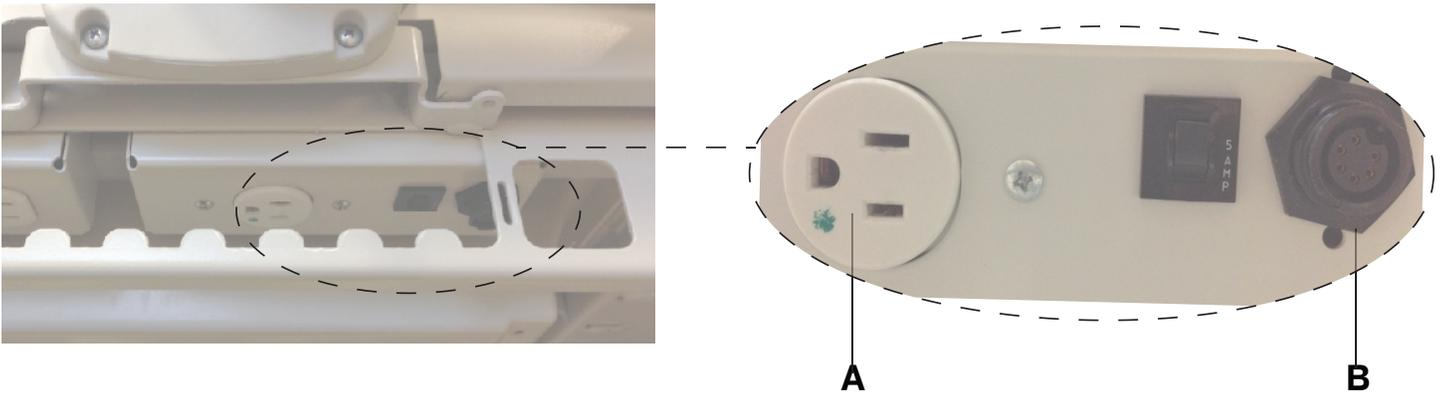

Figure 2 – InTouch foot end auxiliary power outlet and mattress connector
6. Put the retainer strap through both D-Rings (C), both sides.
12. Connect the integration cable from the support surface foot end to the **InTouch** cable adapter (B) (Figure 2).
15. Plug the power cord for the support surface into the **InTouch** foot end auxiliary power outlet (A) (Figure 2).